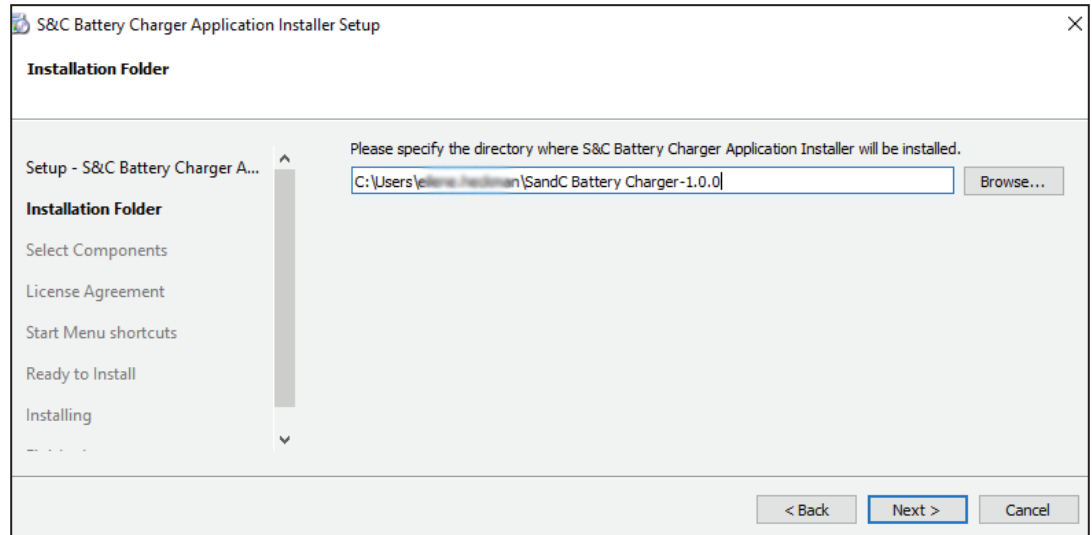

Figure 5. S&C Battery Charger application *Installation Folder* screen.
STEP 3. Specify the directory where the S&C Battery Charger application will be installed. See Figure 5. Then, click on the **Next** button.